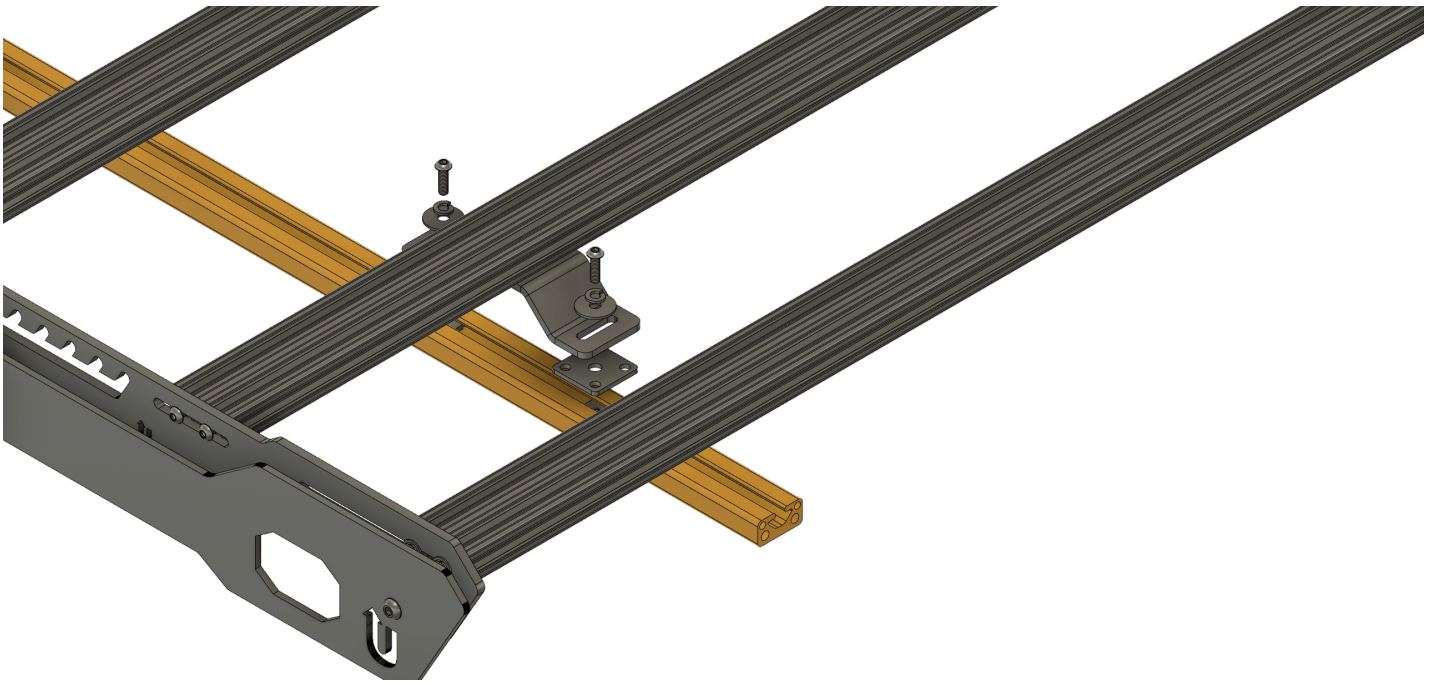

Figure 14
- Install the hardware with the appropriate amount of spacers as shown in the illustration (Figure 14).